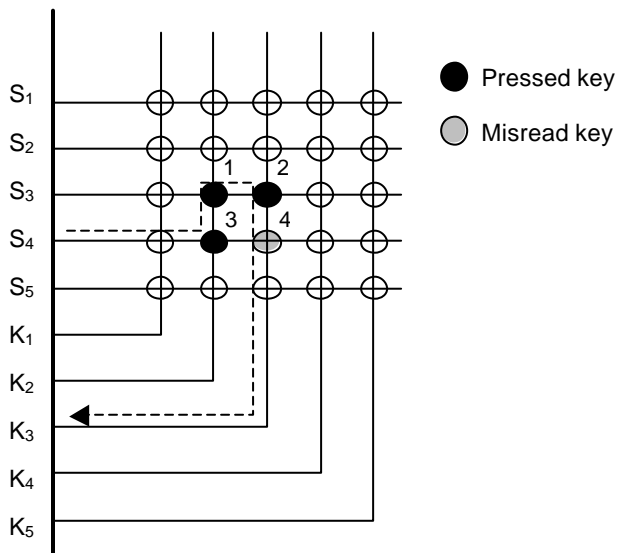
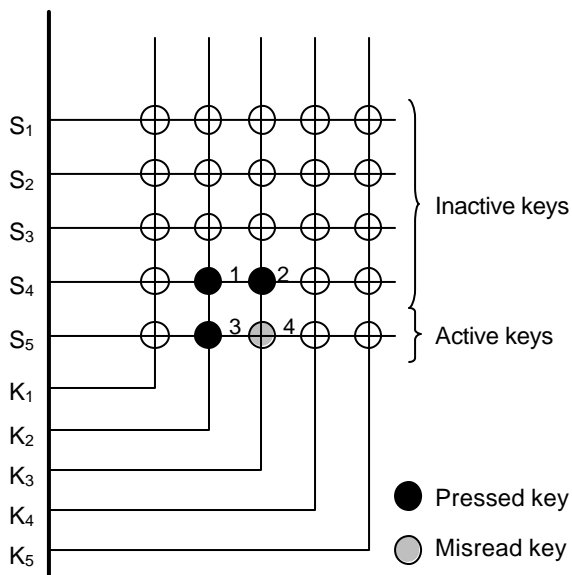
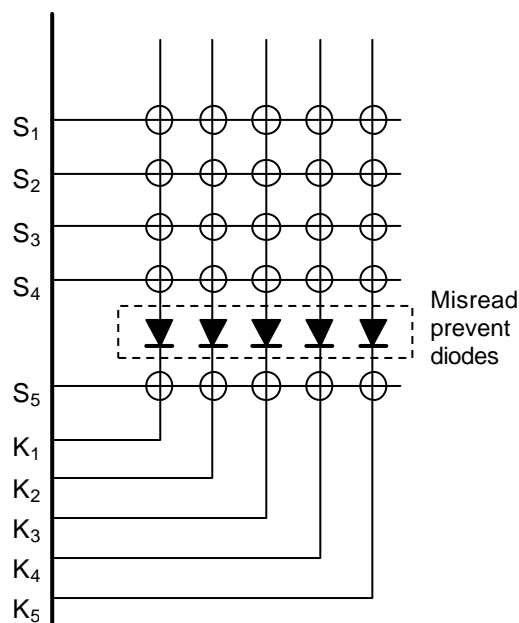

Fig. 1 Miss-recognized key of multi-key scan operation
Fig. 2 Miss-recognition under Power Save mode 1
Fig. 3 Connect miss-recognition prevent diodes
As described in (4) Key Scan Circuit, even several keys are pushed simultaneously, S1~S5 pins can be maintained at "H" level (normal mode), so without the diode, the scan data can be detected and read out. But, if more than 2 keys are pressed like in Figure 1, the key 4 will be recognized as pressed. To prevent this kind of malfunction, diodes can be used like in Figure 3, or use software to reject possible misread multi-key input. (For example, make it invalid if 4 keys are pushed simultaneously)
Under Power Save mode 1 (only the keys on S5 line are valid) and Power Save mode 2 (only the keys on S4 and S5 lines are valid), if the inactive keys and the active keys are pushed together like in Figure 2, the key 4 will be recognized as pushed, in this case, the software can not reject the misread of key 4. The diodes need to be used as in Figure 3.